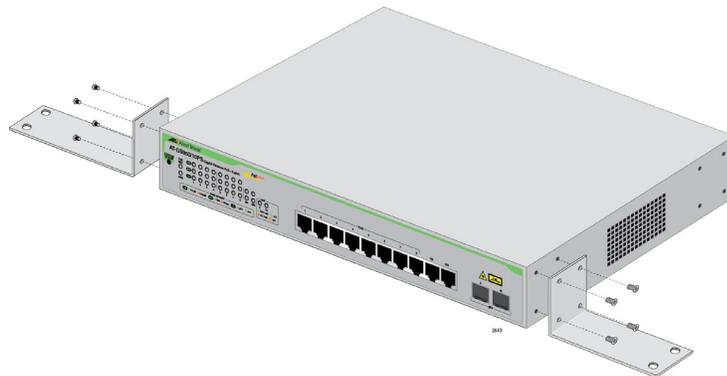

Figure 23. Attaching the Brackets to Install the Switch on a Wall
3. Orient the brackets against the sides of the switch, as shown in Figure 23, and secure them to the unit with the eight brackets screws included with the switch.